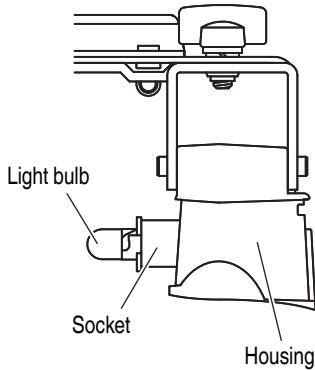

Fig. 20 <Top View>
- (3) Remove the light bulb from the socket (Fig. 20).
- When attaching the socket to the housing, align the socket with the hole of housing while watching the back of the socket shown in Fig. 20, and insert the socket until it lightly bumps against the housing.